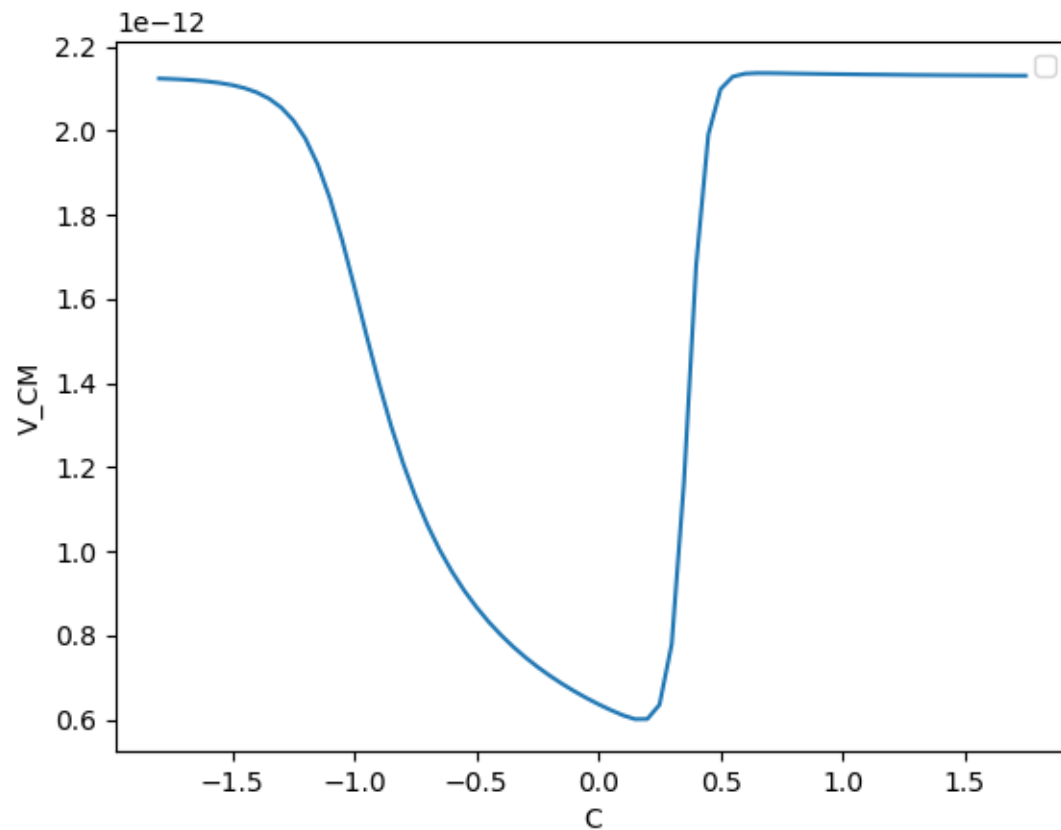

Figure 4: Long Channel, $f=10\text{MHz}$
- Please refer Figure 4 for the plot.